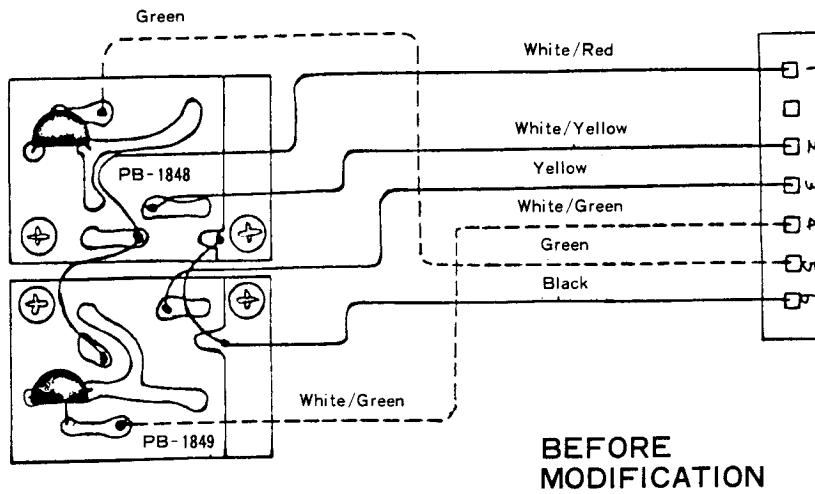
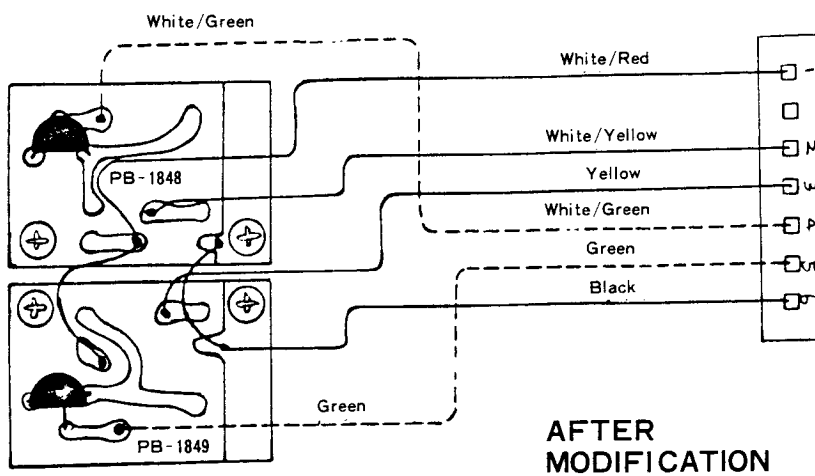

Figure 15.
Figure 16.
- (3) Referring to Figure 15, locate the white/green wire connected between pin 4 of P₁ and PB-1848; also locate the green wire connected between pin 5 of P₁ and PB-1849. Reverse these wires by unsoldering them from the circuit boards and installing the green wire to PB-1848, the white/green wire to PB-1849. The corrected schematic is shown in Figure 16.